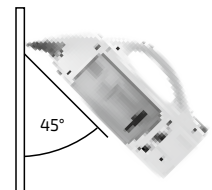

Figure 5: Suction angle
- Clean the window as usual with water and a cleaning agent. Switch the window vacuum on by pushing the main power switch; the indicator light will be a steady green. Place the rubber lip of the device on the surface to be vacuumed and use light pressure to pull it from top to bottom across the surface. To achieve the best results, hold the appliance at a 45° angle to the pane (see figure 5).